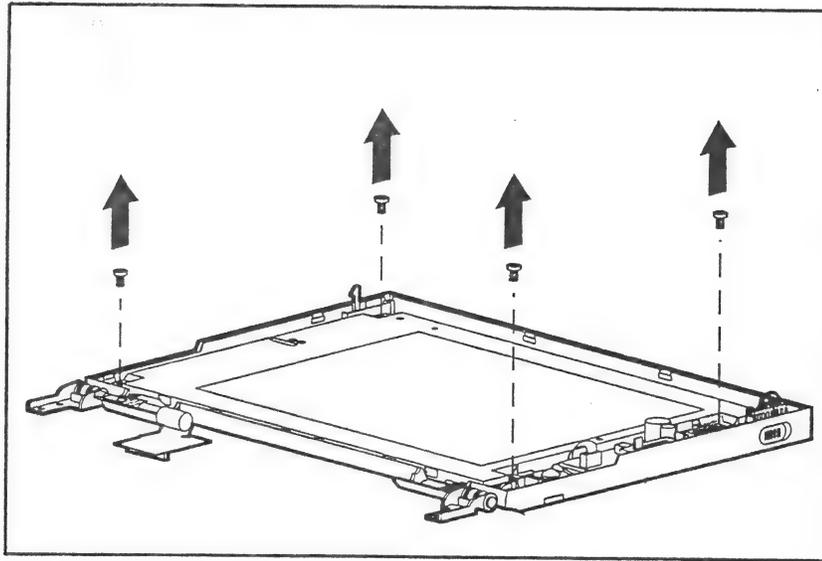

Figure 2-16. Positioning the LCD Panel
2. Tilt the display assembly until it is flat (Figure 2-16).